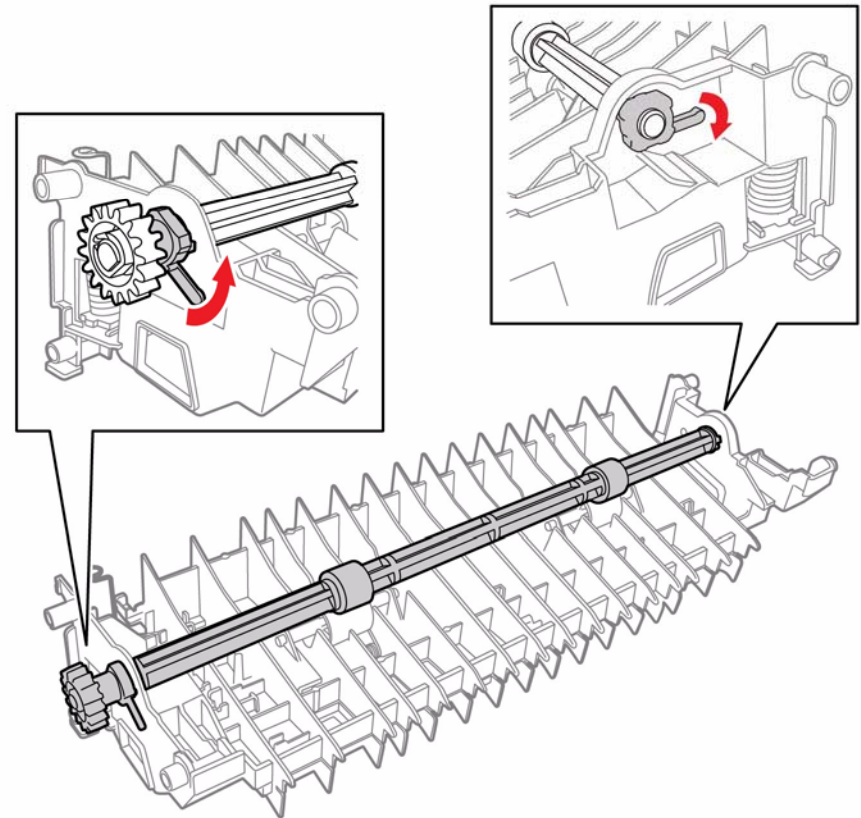

Figure 1 Remove the Duplex Roller
4. Refer to Figure 1 to locate and release the bearing at each end of the roller shaft to remove the roller.